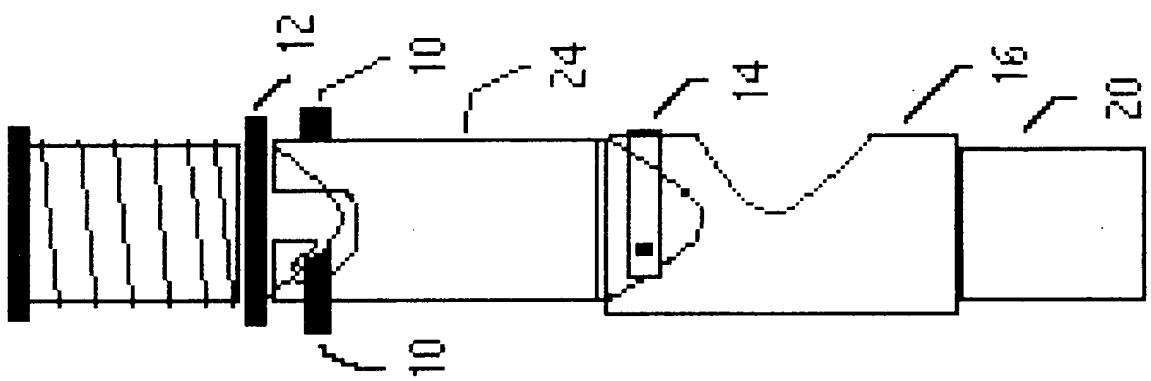

FIG. 11
- Fig 11 shows adaptor for modified spark plug ~~(tip)~~ TERMINAL and conventional spark plug wire ~~(metal clamp)~~ SAID an alternative embodiment. ~~TERMINAL BEING CONNECTED~~ A